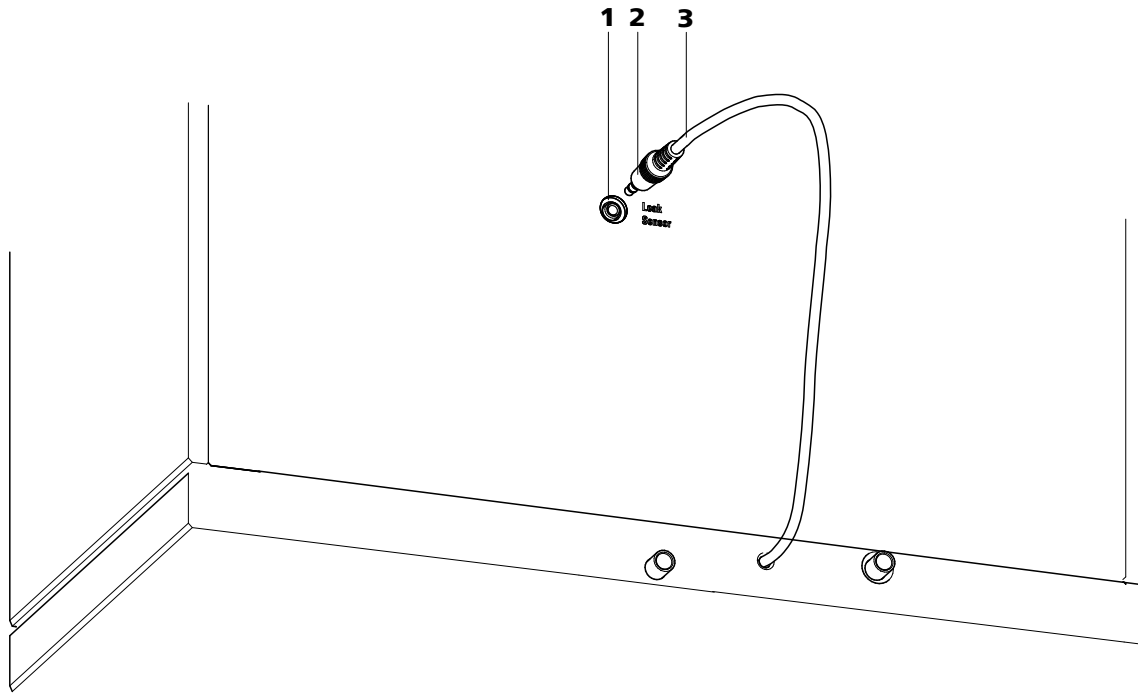

Figure 8 Connection for the leak sensor on the rear of the instrument
- 1 Plug the leak sensor connector plug (8-2) into the leak sensor connector socket (8-1) on the rear of the instrument (see Figure 8, page 28).